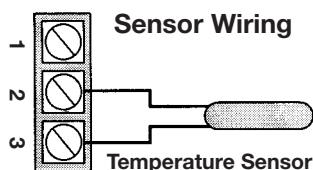

FIG. 5
- The sensor wires have no polarity. Connect either wire from the sensor to terminals 2 and 3. (See Fig. 5)